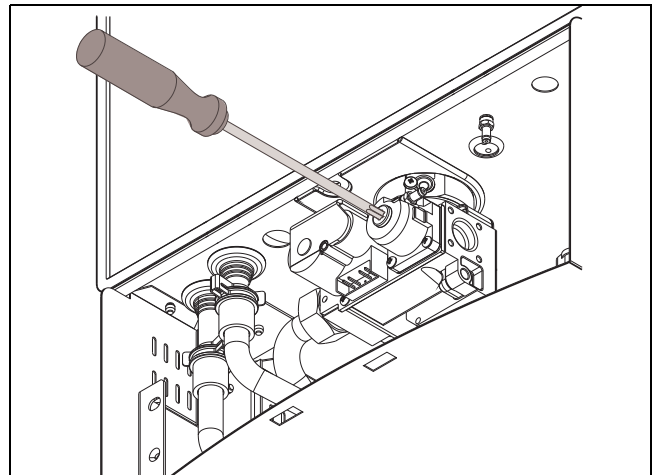

Fig. 74 Adjusting P2 CO₂ level
- ▶ Remove yellow painted #40 Torx cover from the front of the gas valve. (Fig. 74) A plastic #40 Torx screw will be revealed.